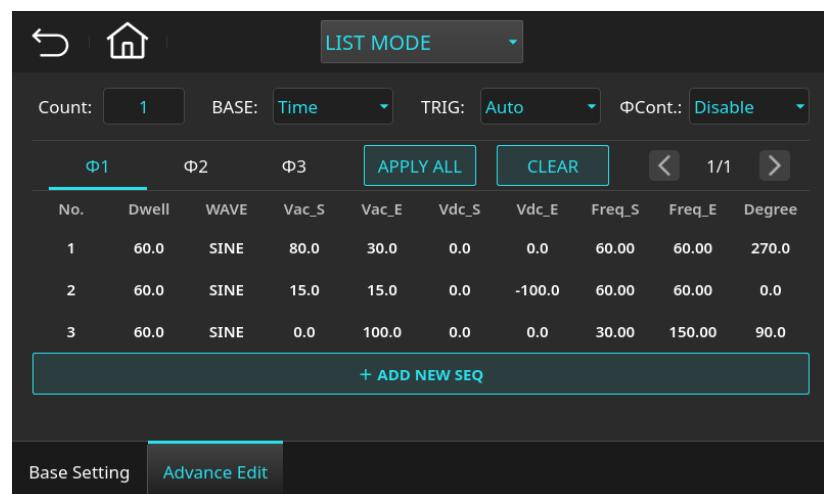

Figure 5-10 List Mode Setting Page (Example Parameters for Phase 1 Sequence Configuration)
6. Press **RETURN** to confirm the List Mode setting page, as shown in Figure 5-10.